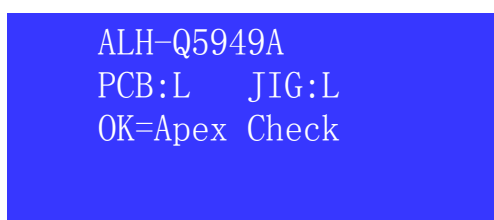
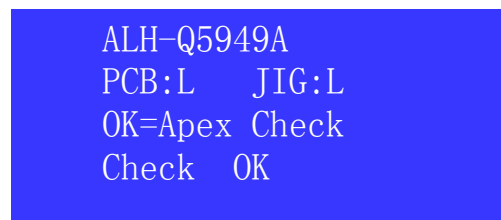

Figure 14
Figure 15
7. In the interface in step 5, press F1 to go to the interface shown by Figure 14. Here the chip can be checked. Connect the jig with the chip, press the confirm button on the device or the jig, and wait for the screen to show "Check OK" (Figure 15) and the light above F1 turns green. At the same time there will be a "Bee". This means that the chip is good.